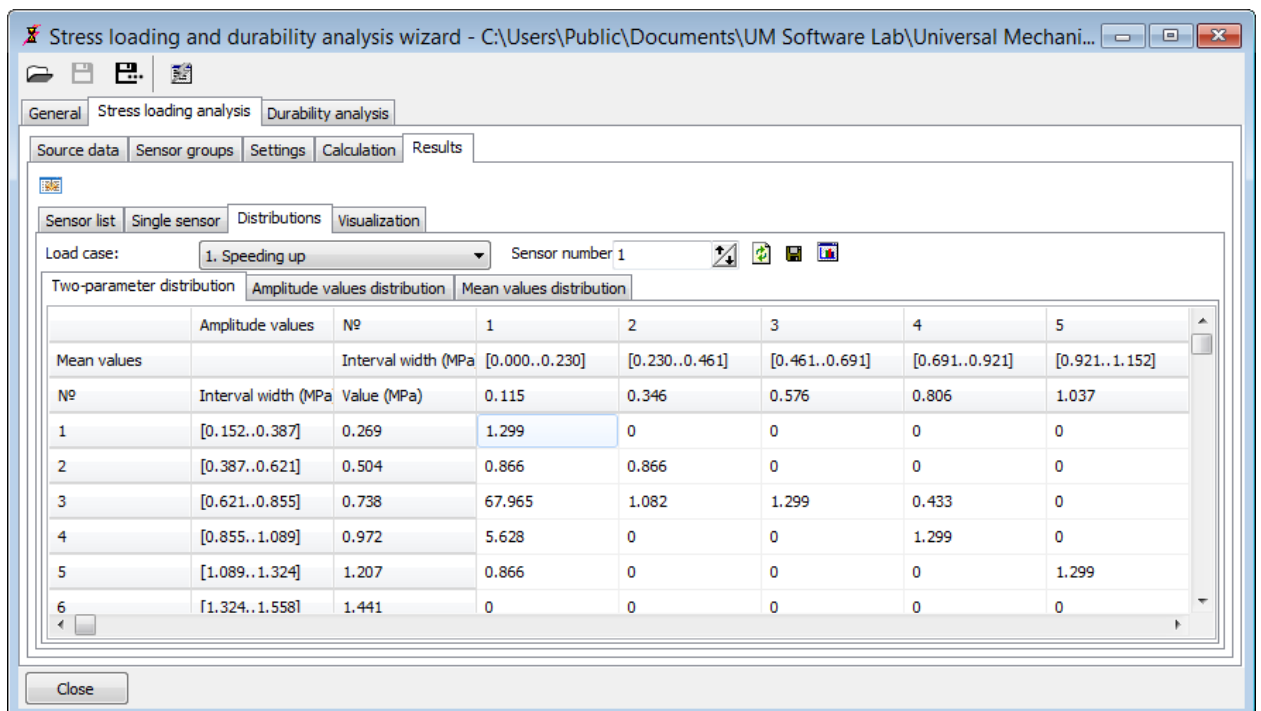

Figure 2.22. Results: stress loading parameters distributions (table form)
- To inspect stress loading parameter distributions for the load cases at the node select **Stress loading analysis | Results | Distributions** tab. Input node number and select the load cases to display single and two-parameters distributions of amplitude and mean values in table form, see Figure 2.22.